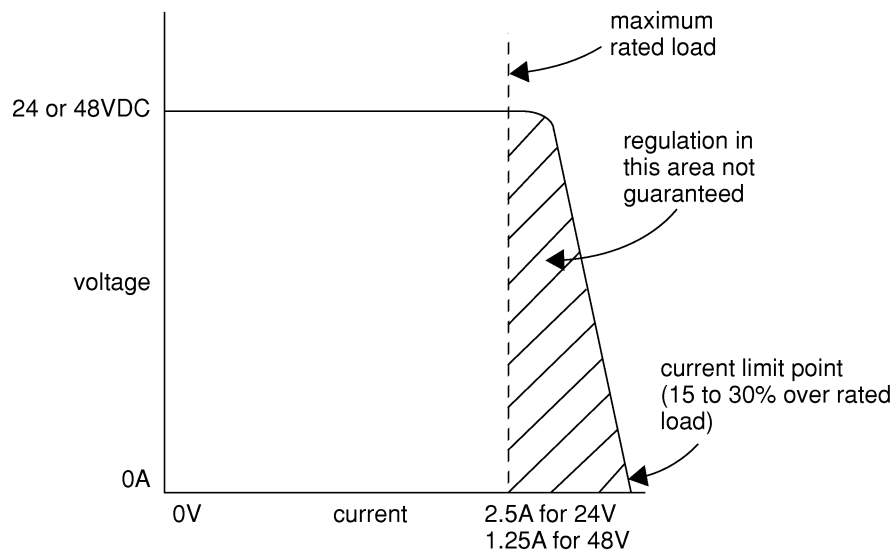

Figure 3-1 DC Output Current Limiting
- 3.8 The 8050's DC output provides true current limiting (see Figure 3-1). As the loading is increased, output voltage begins to fall. If a dead short is placed across the DC output, current still flows continuously. The front panel pwr LED is powered from one of the 24V supplies. If the DC output is overloaded and voltage fails, the LED dims or goes out. The EMI filter at the DC output reduces power converter noise.